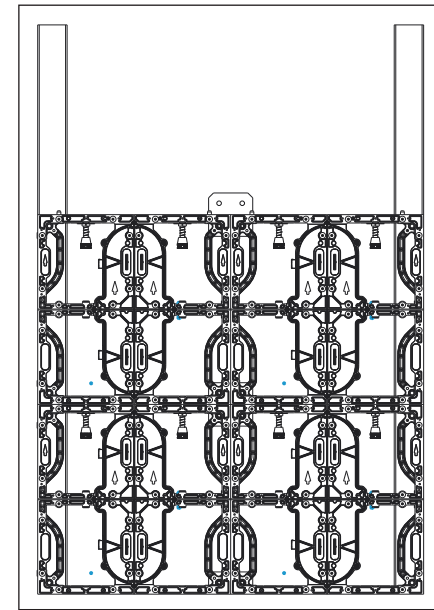

Figure 4: Install Second Row
9. Continue installing panels in the next row and up until all panels are installed. Refer to **Figure 4** and **Figure 5**.